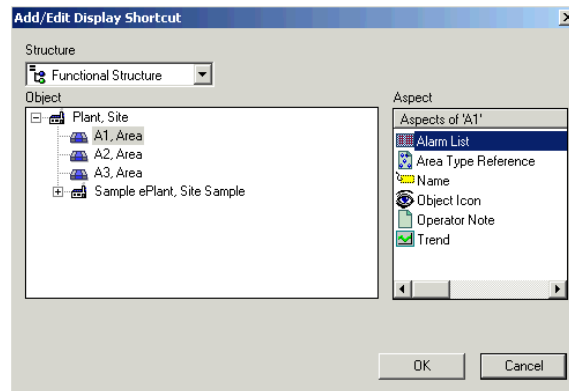

Figure 27. Application Bar Shortcuts Dialog Box
3. Select structure, object and aspect in the Add/Edit Display Shortcut dialog box, see Figure 27. Click **OK**. The shortcut is now added to the shortcut list.